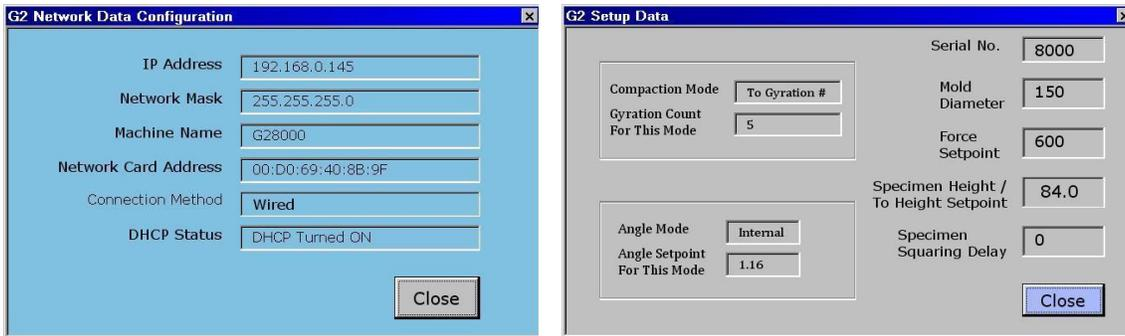

Figure 5.5: AFG2 Setup Parameter Windows
**G2 Network Configuration:** This displays the network address and other network information for the AFG2. See Figure 5.5.
**G2 Setup Parameters:** This displays the current setting of the G2. See Figure 5.5.